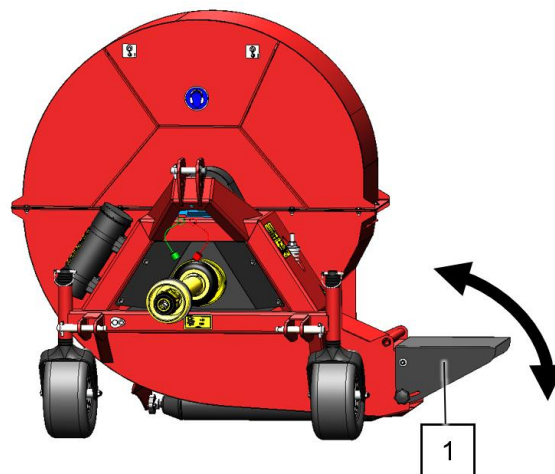

Fig. 10
Instead of the reverse spout, the supplied outlet flap can also be used (1). Unlike the reverse spout, airflow is now only possible on one side of the machine. However, the airflow in the vertical plane can be regulated by adjusting the outlet flap (Fig. 10).